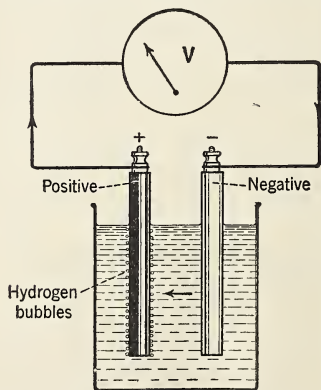

FIG. 601. Hydrogen bubbles collect on the positive plate, causing polarization.
2. *Polarization.* As used here, polarization has no relation to polarization of light nor even to magnetic polarity. It is a defect in cells caused by the accumulation of hydrogen bubbles on the positive plate. Let us connect a simple voltaic cell with a voltmeter, as shown in Fig. 601. At first, the voltmeter will probably show a reading of about 1.5 volts. If we let such a cell stand on closed circuit for several minutes, we notice that the voltage gradually falls. If we examine the plates of such a cell, we find that the positive plate is covered with an accumulation of tiny bubbles of hydrogen gas. A plate of hydrogen has been virtually substituted for the carbon plate with which
2. *Chemical*. Given a polarized cell as shown in Fig. 601. If we add to it a small crystal of potassium dichromate, or some other chemical which loses its oxygen readily, we find that the voltage again rises to nearly normal. Potassium dichromate is a compound which is a vigorous *oxidizing agent*. The oxygen which it sets free combines with the hydrogen bubbles and forms water. Hence, an oxidizing agent can be used to remove hydrogen and remedy polarization. Such oxidizing agents as nitric acid, chromic acid, and manganese dioxide have been used in various types of cells to oxidize the hydrogen and prevent polarization.